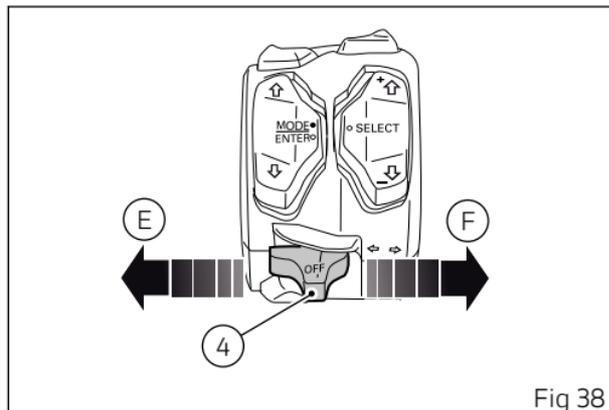

Fig 38
When turning the key to off, the display shows the page where to switch on the parking lights: to turn on the parking lights, keep pressed button (4, Fig 38) in position (E).